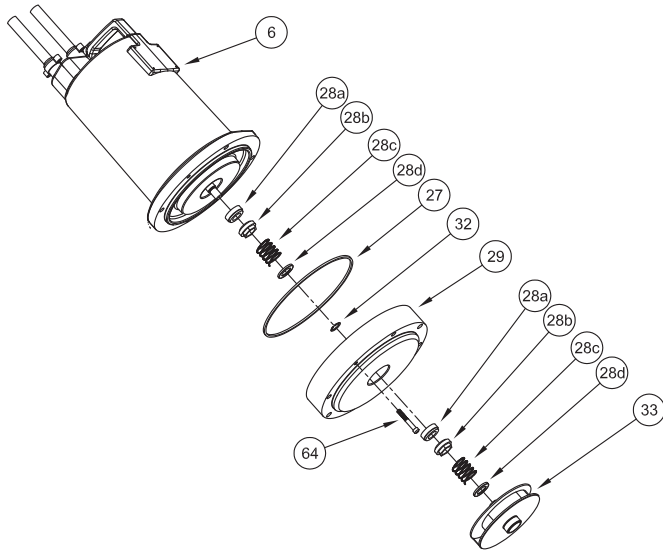

FIGURE 9
Inner Seal (DS Units Only) - Clean and oil seal cavities in seal plates (5, 29). Lightly oil (**DO NOT use grease**) outer surface of stationary member (28a). Press stationary member (28a) firmly into inner seal plate (5), using a seal pusher. Nothing but the seal pusher is to come in contact with seal face (see Figure 9)